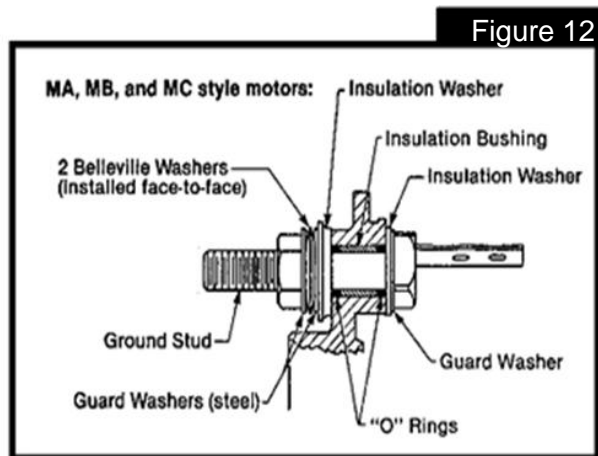

Figure 12
1.2 Slide guard washer and insulating washer on the ground stud and insert it in the terminal bore in the CE housing. Align the ground stud in its correct position (if needed, assemble a brushholder temporarily in place to indicate the correct location for the jumper on the ground stud) and complete installation as shown in figure 12. Tighten to 18-22 lbf-ft. Hold